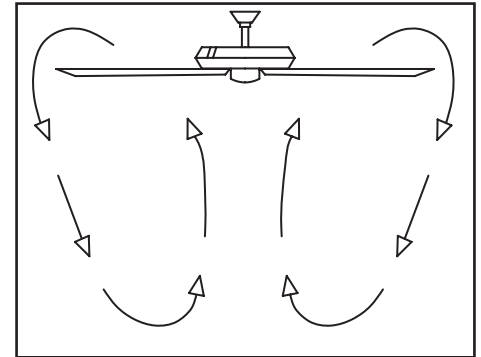

Figure 14
**Cool weather** - (Reverse) An upward air flow moves warm air off the ceiling as shown in Figure 14. This allows you to set your heating unit on a lower setting without affecting your comfort.